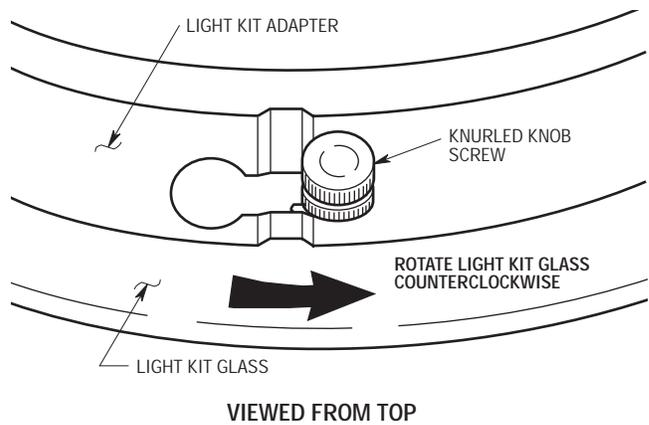

Figure 21
- 11. Raise the light kit glass assembly and insert the two knurled knobs through the two keyholes in the light kit adapter. Turn the light kit glass assembly counterclockwise to engage the knurled knob screws in the slots (Figure 21). Carefully reach between the fan blade flanges and the light kit glass and securely tighten the two knurled knob screws.